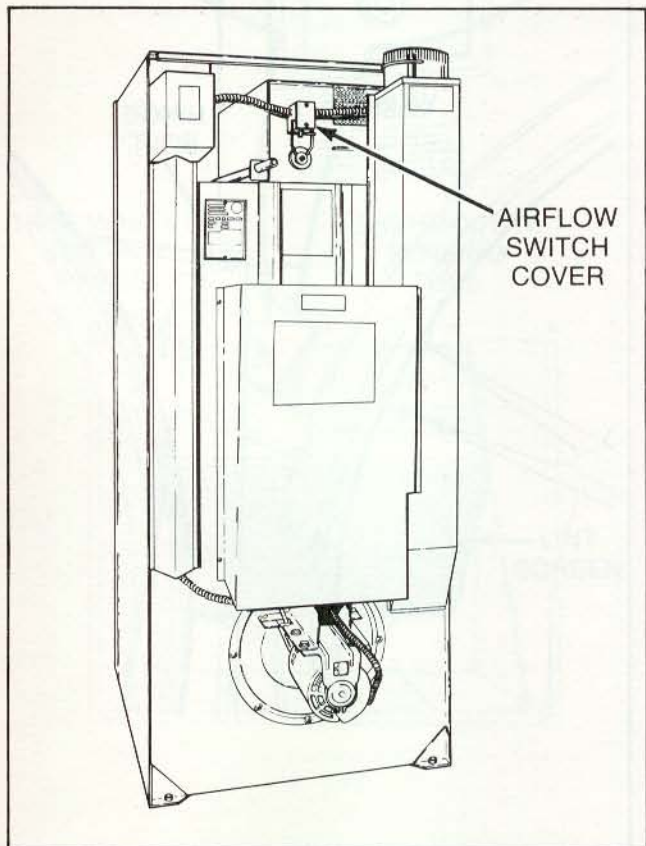

Figure 14
- a. Remove airflow switch box cover, *Figure 14*.